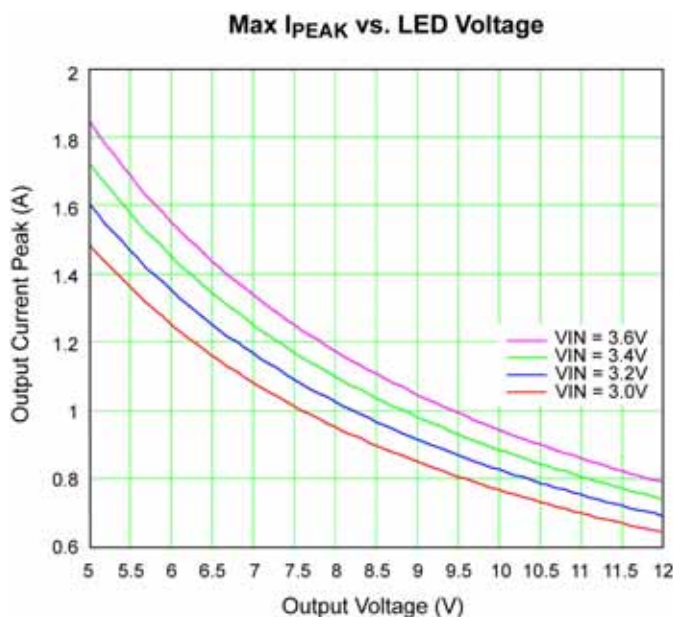

Figure 8. Peak Output Current vs.  $V_{OUT}$
The SOA (safe operating area) of the MIC2298 is shown in the typical characteristics sub-section. This graph represents the maximum continuous output power capability of the part when used in the evaluation board layout. An alternative layout with more copper area for heat sinking will increase the area under the SOA curve. Note that the SOA is for continuous power and not peak power and is effectively a thermal limitation. The SOA is true for a time constant of approximately >1 second. Therefore, any load transient with a period of < 3s can exceed the SOA curve power up to a maximum limited by the current limit of the MIC2298. Figure 8 shows the theoretical output current limit of the MIC2298 using the Evaluation Board inductor value of 4.7μH.
- The time constant of the driver is < 3 seconds, so one can look at the peak current capability of the driver in Figure 8.
- Looking at Figure 8, the MIC2298 can achieve more than the required 800mA peak current at 8.4V.